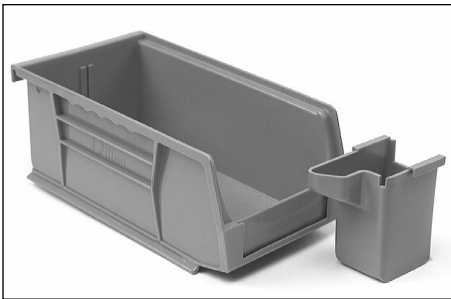
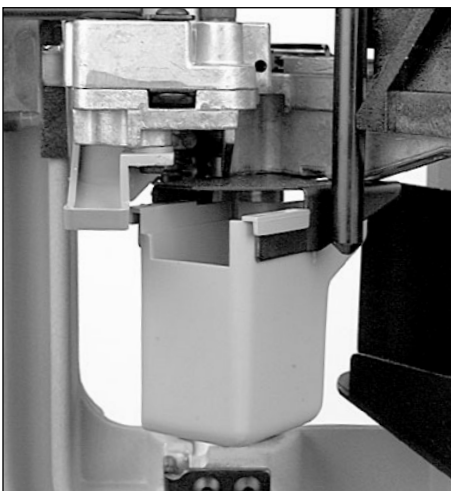

FIG 6
FIG 7
B. Installation of the Spent Primer Cup **FIG 7** and Cartridge Bin **FIG 6**: